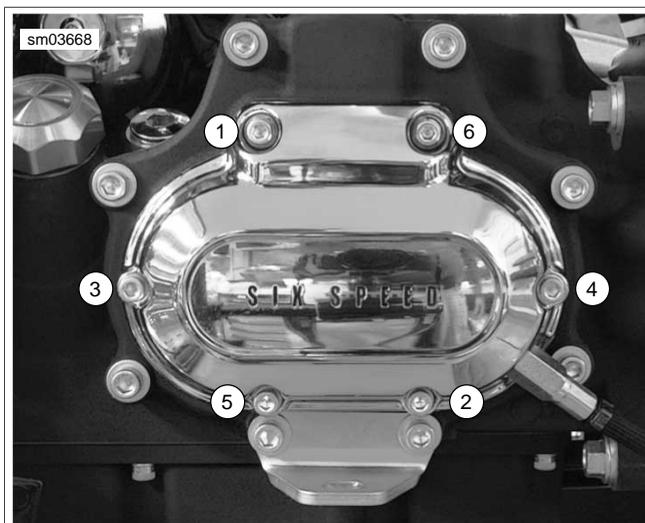

Figure 7-3. Clutch Release Cover Torque Sequence (Short Screws at Locations 1 and 6)
4. See Figure 7-3. Remove the six screws that hold the clutch release cover in place. Remove the clutch release cover and discard the gasket.
See Figure 7-3. Clutch release cover screws in positions (1) and (6) are shorter than the others.
7. See Figure 7-3. Install clutch release cover. Tighten screws to 84-108 **in-lbs** (9.5-12.2 Nm) in sequence shown.